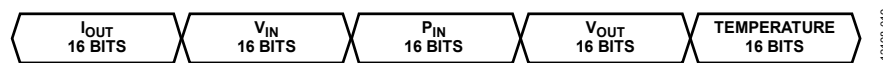

Figure 60. Output Data Format
- No header or ID information required. The 80-bit data format is fixed regardless of ADC sampling selection (see Figure 60).